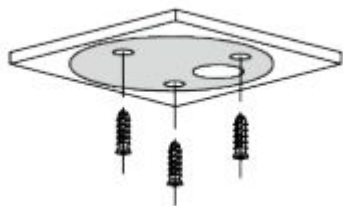

Figure 2-2
**Step 2** Install the included expansion bolts into the mounting holes. See Figure 2-2.